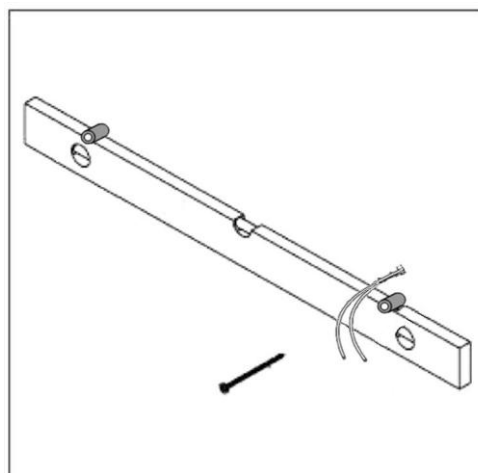

Fig 4.0
- Use a level to determine the correct position for the blocks at the non-cabled end. See Fig 4.0